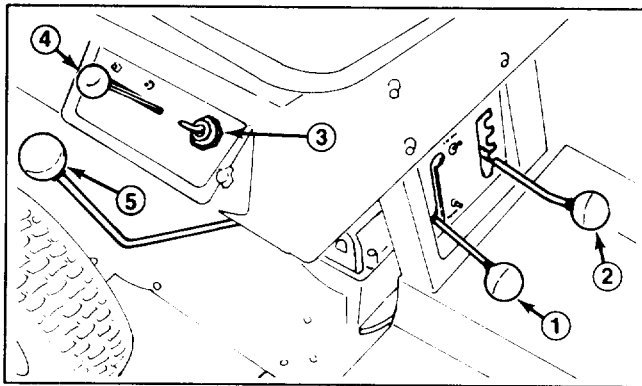

Figure 5
**Gear Shift** (Fig. 5) – The transmission has five forward speeds, neutral, and reverse. The gear shift lever is located on right side of operator. An interlock switch, which prevents engine from being started when transmission is in gear, is mounted on top of transmission.
**Blade Control** (Fig. 5) – Blade control engages and disengages the cutter blade. An interlock switch prevents engine from starting when control is in the ENGAGE position. Engine will start when control is in the DISENGAGE position only.
**Throttle Control** (Fig. 5) – Throttle control connects to and operates carburetor-mounted throttle and choke. Control has three positions: SLOW, FAST and CHOKE.
**Height-of-Cut** (Fig. 5) – Height-of-cut control varies the cutting height from approx. 1-1/2 to 3-1/2 inches in five increments.
2. Move gear shift into neutral and blade control into DISENGAGE detent (Fig. 5).
3. Move throttle control to CHOKE position (Fig. 5) when starting a cold engine. However, a hot engine
4. Rotate ignition key (Fig. 5) to START position. When engine starts, release the key and move throttle between FAST and SLOW if choke was used for starting. Operate the rider with throttle control in FAST (full throttle) position for best performance.
1. Move blade control into DISENGAGE detent (Fig. 5).
2. Move height-of-cut control (Fig. 5) into desired setting.